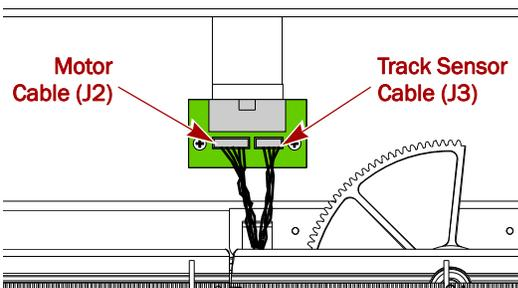

Figure 4. Cable Connections on Flex Cable Card
- Disconnect the **motor and track sensor cables** from the flex cable card (Figure 4).